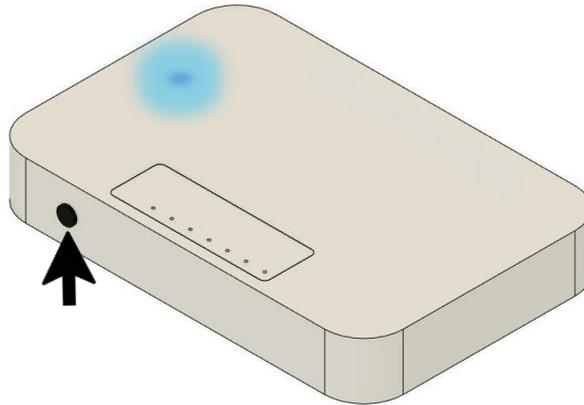

Figure 6 Pairing EBQ master
3. Allows BLE permissions of the apps, presses and holds the pairing button of the EBQ master until Blue Light start blinking as shown in Figure 6.